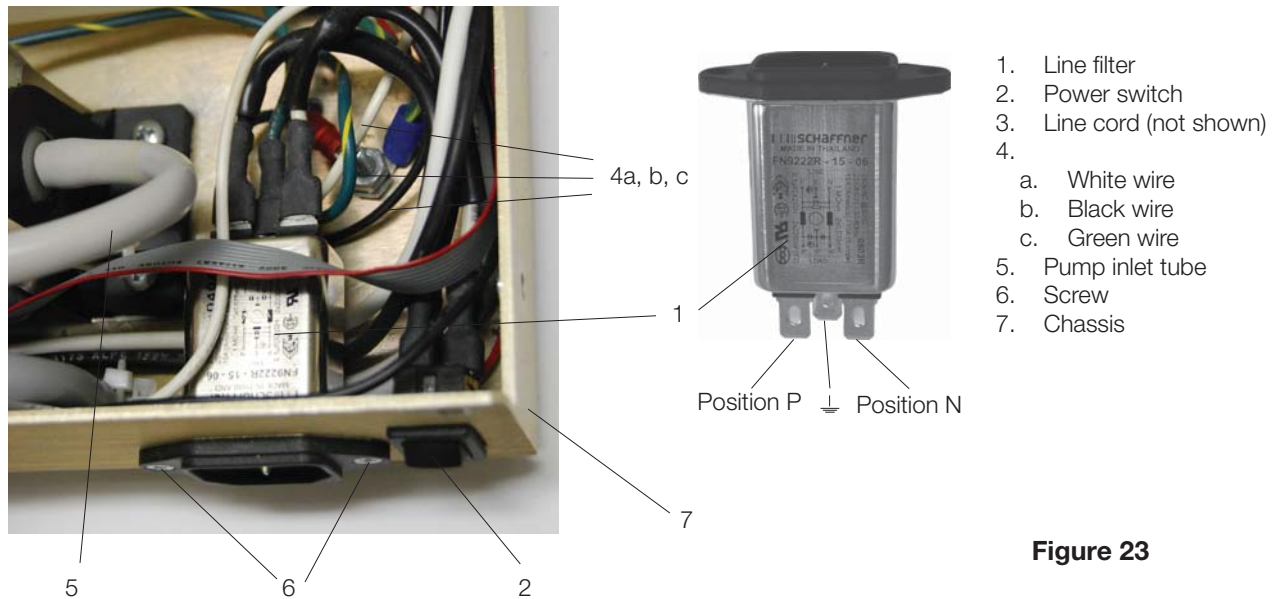

Figure 23
To remove a line filter (1), proceed as follows, (See Figure 23):
1. Turn the power switch (2) OFF, and unplug the power cord (3) from the wall outlet.
3. Disconnect the white wire (4a) from receptacle line filter position N, the black wire (4b) from line filter position P and the green wire (4c) from line filter position. If access to the back of the line filter is impeded, disconnect the pump inlet tube (5).
4. Remove the screws (6) holding the filter to the chassis (7) and remove the filter.
To replace/refit a line filter (1), proceed as follows, (See Figure 23):
1. Insert the line filter in the opening in the chassis (7). The P and N fast-on spade terminals should face up, and the ground terminal should face down.
2. Insert and tighten the screws (6) holding the line filter, using Loctite in the threaded holes in the chassis.
5. If the pump inlet tube (5) was moved, reinstall the tube.